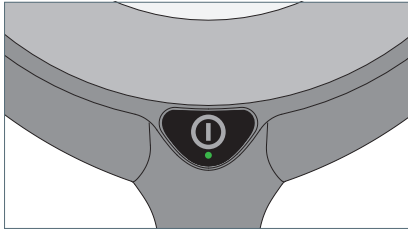

Fig. 9: Switch.
- ▶ Press the switch, see Fig. 9.
- ▶ Press the switch and keep it depressed, see Fig. 9.
- ▶ Press the switch twice in quick succession, see Fig. 9.